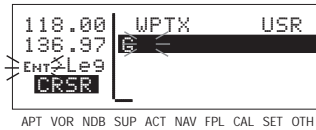

Figure 3-156
2. Select the desired character, if any, and move the cursor to the next character on the line (figure 3-156).